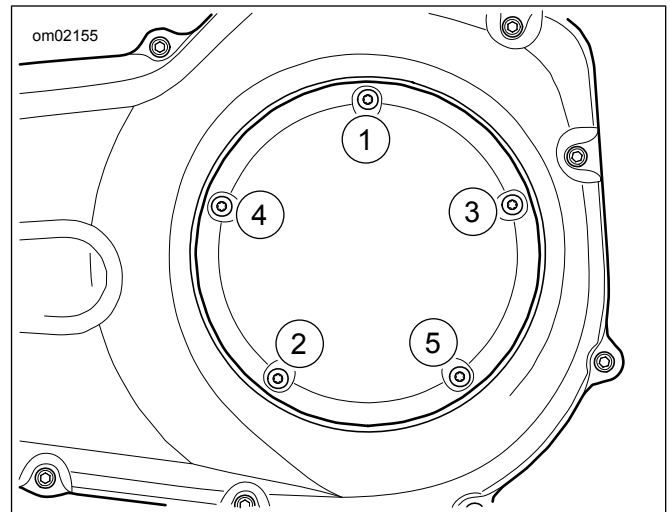

Figure 2. Torque sequence
5. See Figure 2. Tighten derby cover screws in sequence shown.